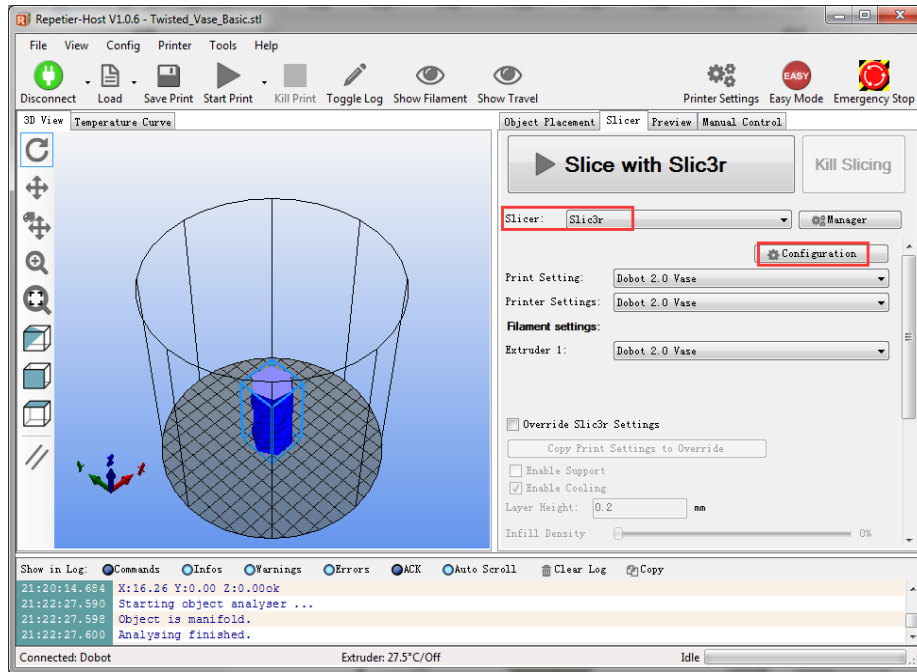

Figure 5.125 Select slicer
1. Select **Slic3r** from **Slicer** on the **Slicer** tab of the **Repetier Host** page, and click **Configuration**, as shown in Figure 5.125.